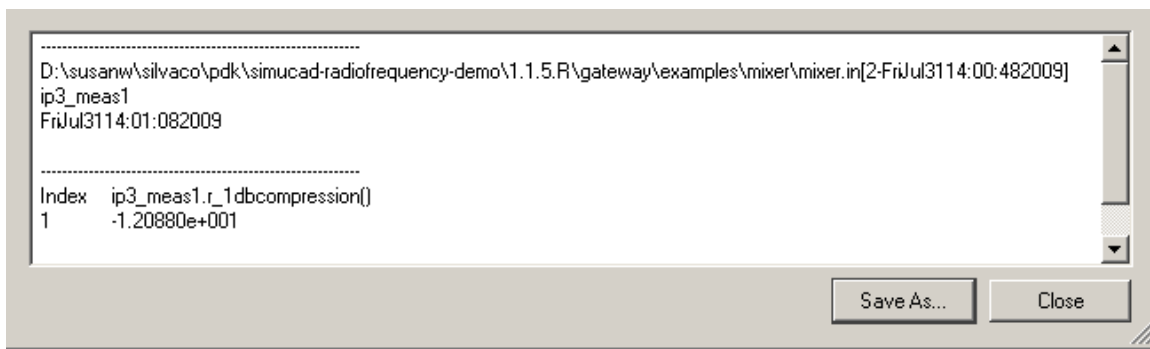

Figure 13: View Data Window: 1 dB Compression Point = -12.09 dBm
2.10.2: In SMARTSPICERF, you can see the actual values that are being plotted. To view these, select vector “r_1dbcompression” from “meas1” and press **View Data** and 1dB compression point value is shown in Figure 13.